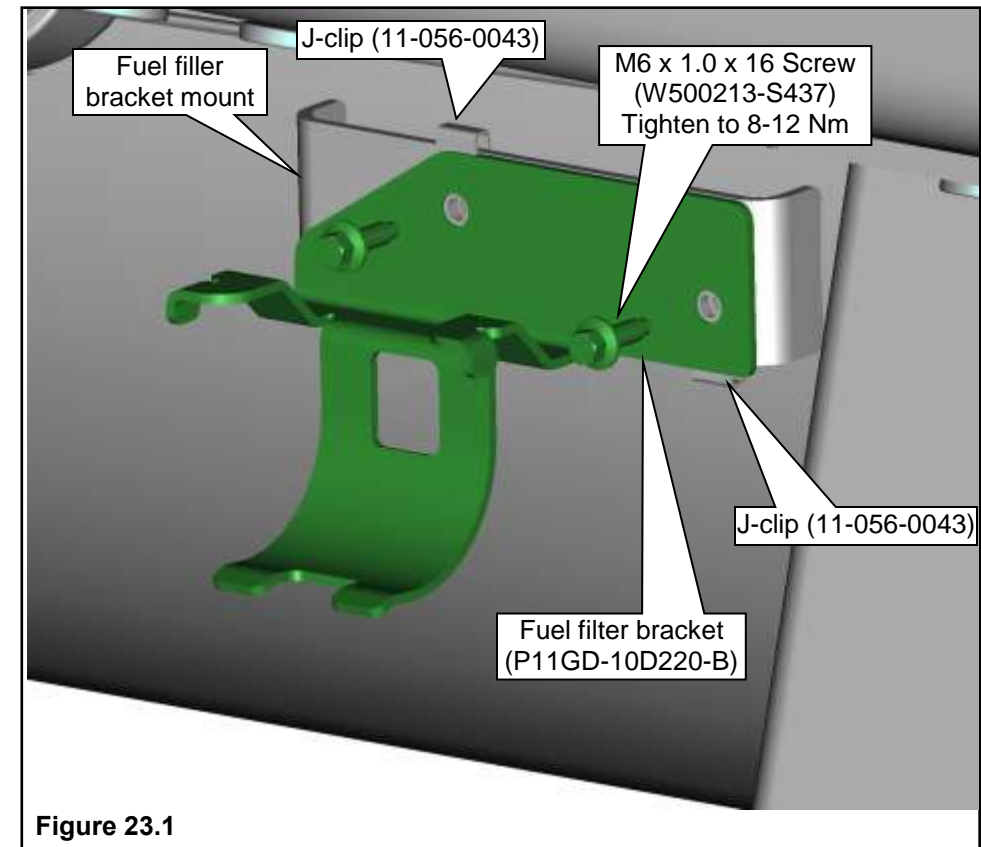

Figure 23.1
6. Install the two (2) J-clips to the fuel filter bracket mount on the fuel tank. Position the fuel filter bracket with clamp and install the two M6 x 1.0 x 16 mm bolts. Tighten to specification. **Figure 23.1.**